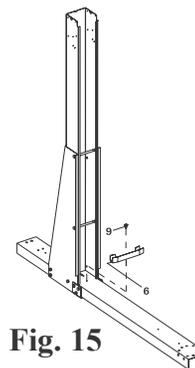

Fig. 15
E) Once all of the 5" long bolts have been tightened, install the straight side bottom connectors. This is done by placing the connector on top of the strap end channel just inside the straight side upright. The hole in the connector should line up with the hole in the strap end channel. Secure the connector to the channel using a single # 12 x 3/4" self drilling screw for each as shown in Fig.15